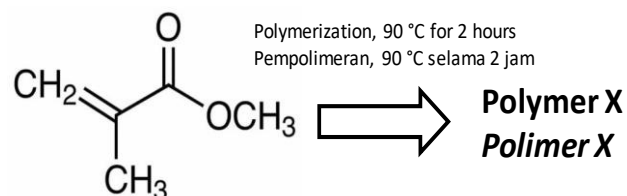

Figure 1: Polymerization process to obtain polymer X.
- (1). Figure 1 illustrates the formation of polymer X through a polymerization process.
- (a). Describe the reaction scheme for obtaining polymer X as depicted in Figure 1 through the polymerization process and state the relevant reaction mechanism.
- (b). Specify the polymerization technique used in Figure 1. Describe both the advantages and disadvantages of this polymerization technique.